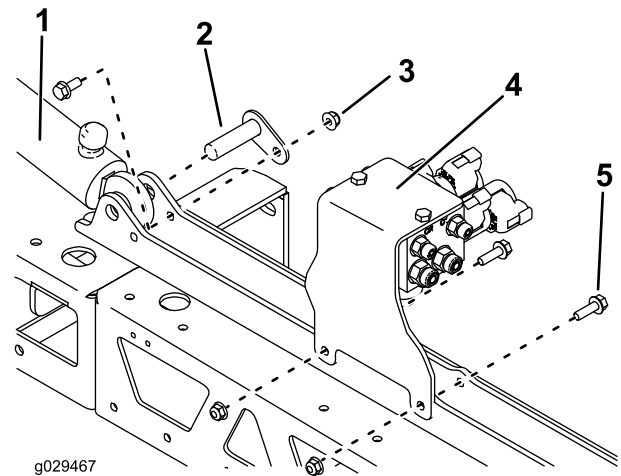

**Figure 13**
5. Install the right-boom hose to the double-turret body of the center-boom extension and the right, single-turret body (Figure 13).
6. Install the tee that you previously removed and the 2 remaining hoses (9-1/8 inch) as shown in Figure 13.